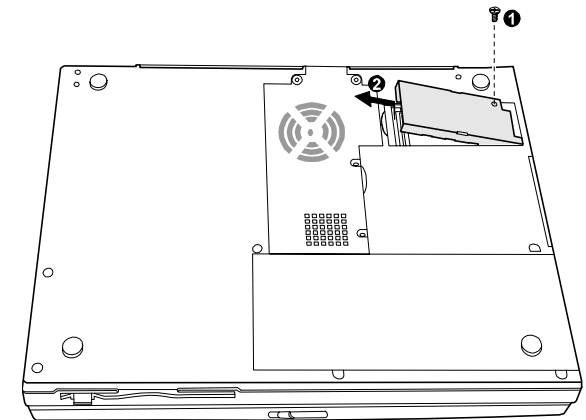

Figure 5-17. Removing the Fax/Modem/Voice Card
1. Hold the Fax/Modem/Voice Card at an angle so that the phone line connector is pointed towards the opening on the notebook. Insert the phone line connector into the opening and press the other end to plug the other connector into the socket on the system board. Then, secure with one screw. (Refer to Figure 5-17 earlier.)